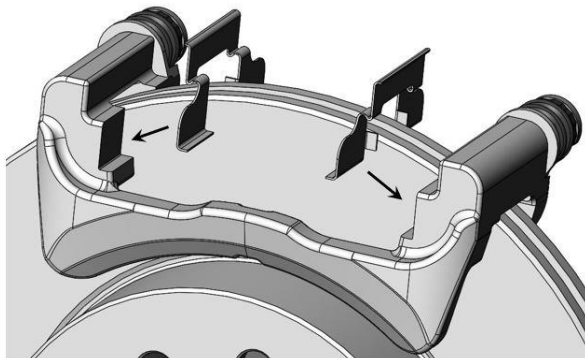
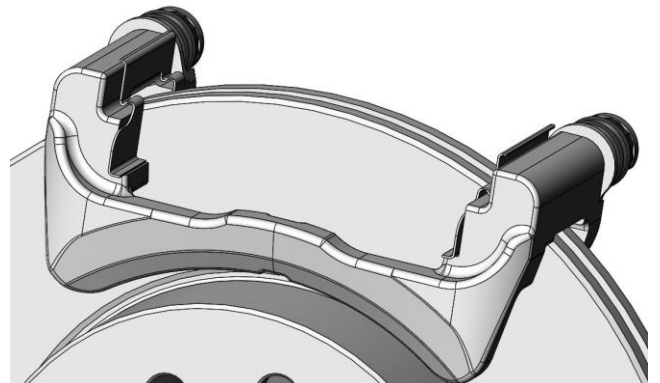

Figure 8a– Abutment Clips Installation
Figure 8b – Abutment Clips Installed
- Place the Stainless-Steel Abutment Clips into the Caliper Anchor Bracket at this time. Refer to Figure 8a and Figure 8b below for installation reference.